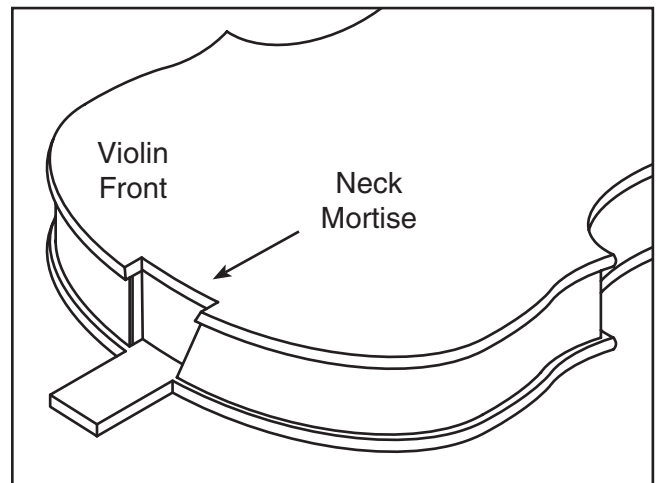

Figure 6. Neck mortise.
2. Using a chisel or sharp knife, remove small amounts of material from the violin body (**Figure 6**). Removing too much material, or removing it too fast, could cause irreparable damage. Note—*The final depth of the mortise should be 5 to 6mm. Make sure the critical measurements are maintained first and foremost!*